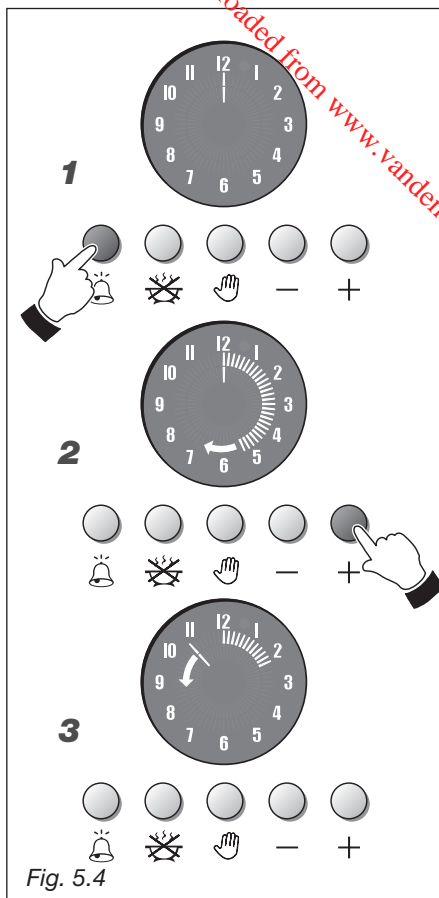

Fig. 5.4
TIMER (fig. 5.4)
1. Fig. 5.4 - To set the timer program press  button.
2. Fig. 5.4 - Press button  within 7 seconds and set the required time. Outer luminous hands light up. Press button  to decrease the time.
3. Fig. 5.4 - The countdown starts immediately and an anti-clockwise luminous hand lights up on the display. On each rotation (1 minute) of this hand one outer luminous hand goes out.